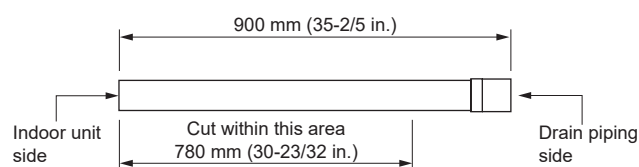

Fig. 5-2
5.2. Drain hose (Fig. 5-2, 5-3, 5-4)
- Drain hose is 900 mm (35-2/5 in.) long, so that drain piping exit can be moved up. Cut drain hose into appropriate length before connecting. (Fig. 5-2)